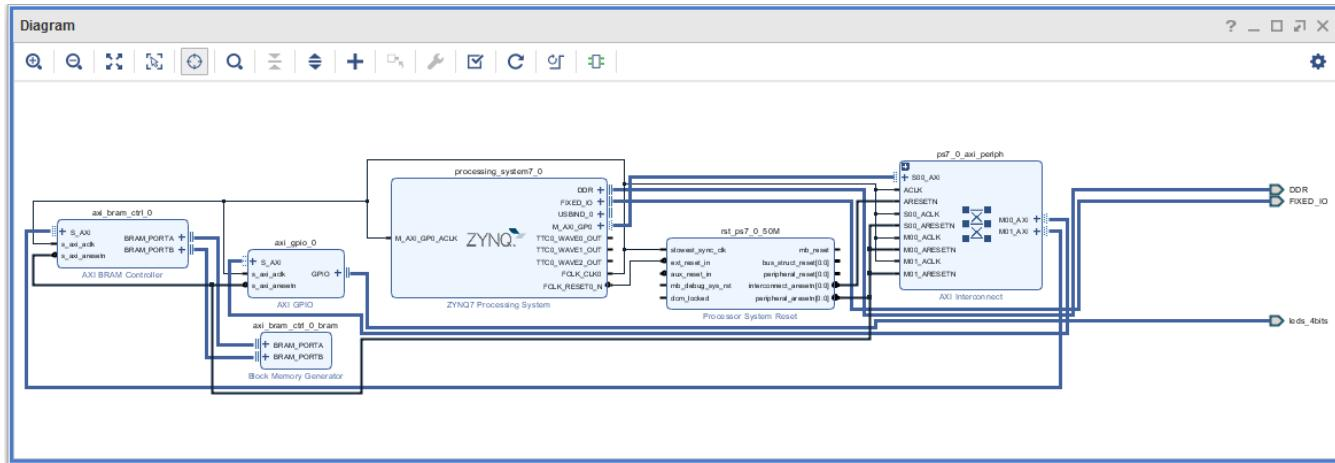

Figure 15: Zynq-7000 AP SoC Processor System and Peripherals
8. Change the range of the AXI BRAM Controller to **64K**, as shown in Figure 15.